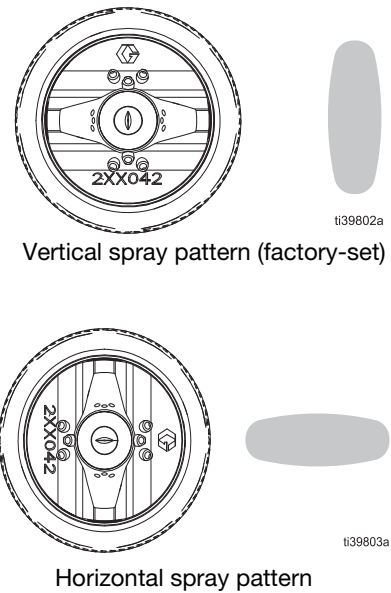

FIG. 9: Spray pattern positions
6. Rotate the air cap (8a) to the horizontal or vertical spray pattern position. See FIG. 9.
The air cap alignment pin (8e) is factory-set to the vertical spray pattern position. See FIG. 9